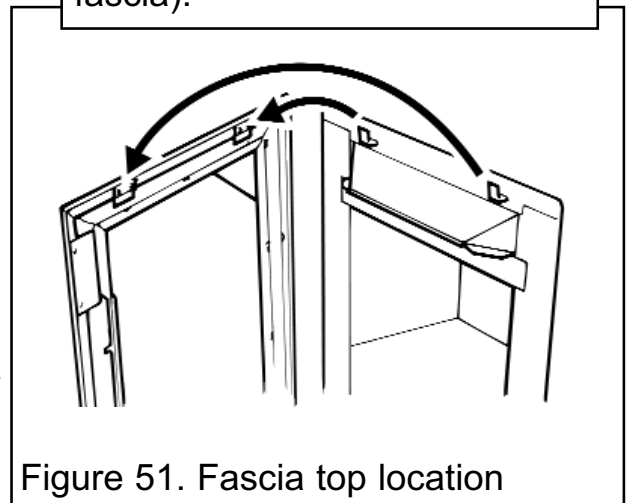

Figure 51. Fascia top location
4. **Make sure that the control linking bar has been detached (See 2 above).** Carefully lift the fascia upward to clear the upper retaining brackets on the convection box (See figure 51). Pull the fascia clear and place carefully aside.